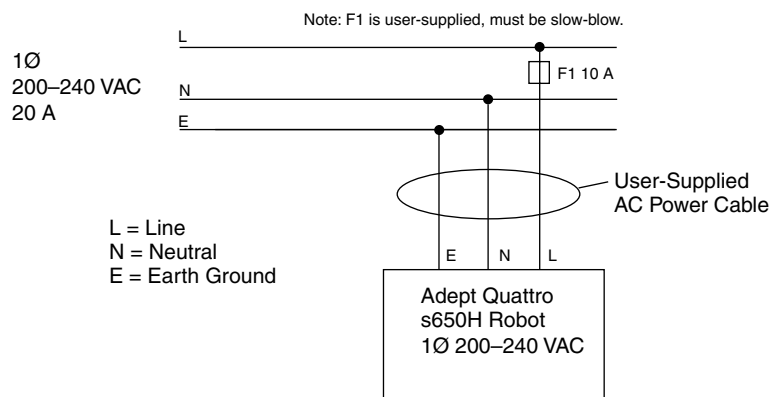
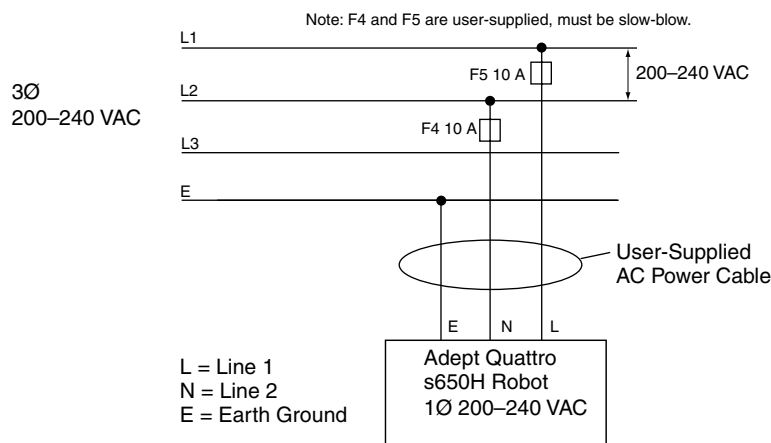

Figure 4-4. Typical AC Power Installation with Single-Phase Supply
Figure 4-5. Single-Phase Load across L1 and L2 of a Three-Phase Supply
1. Connect the AC power cable to your facility AC power source. See Figure 4-4 and Figure 4-5 on page 59. Do not turn on AC power at this time.